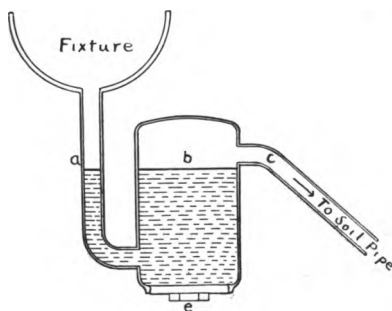

FIG. 337.—TRAP
**347. Traps.** Traps are water seals. In their construction (Fig. 337) advantage is taken of the fact that a gas will not force its way into water to a lower point, unless its pressure is
In ordinary drum or S traps, there is a cap that may be unscrewed, either to remove any obstruction or to clean out the vent pipe that has been stopped up with grease. In the best forms of traps these caps are on the bottom or on the sides below the water surface. (See *e*, Figs. 337 and 339.)